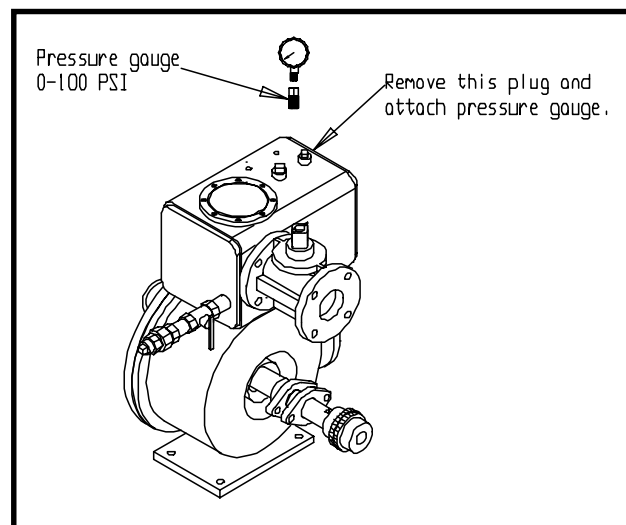

FIGURE 3
6. Slowly open the 3/4 inch (19.05 mm) plug on top of the strainer box (Figure 3) and listen for a suction sound. If sound is heard, remove the plug and install a 0-100 PSI pressure gauge with diaphragm (ROSCO part #5058) to the screen box. If a suction sound is not heard, check all switches to be sure the right settings are being used.